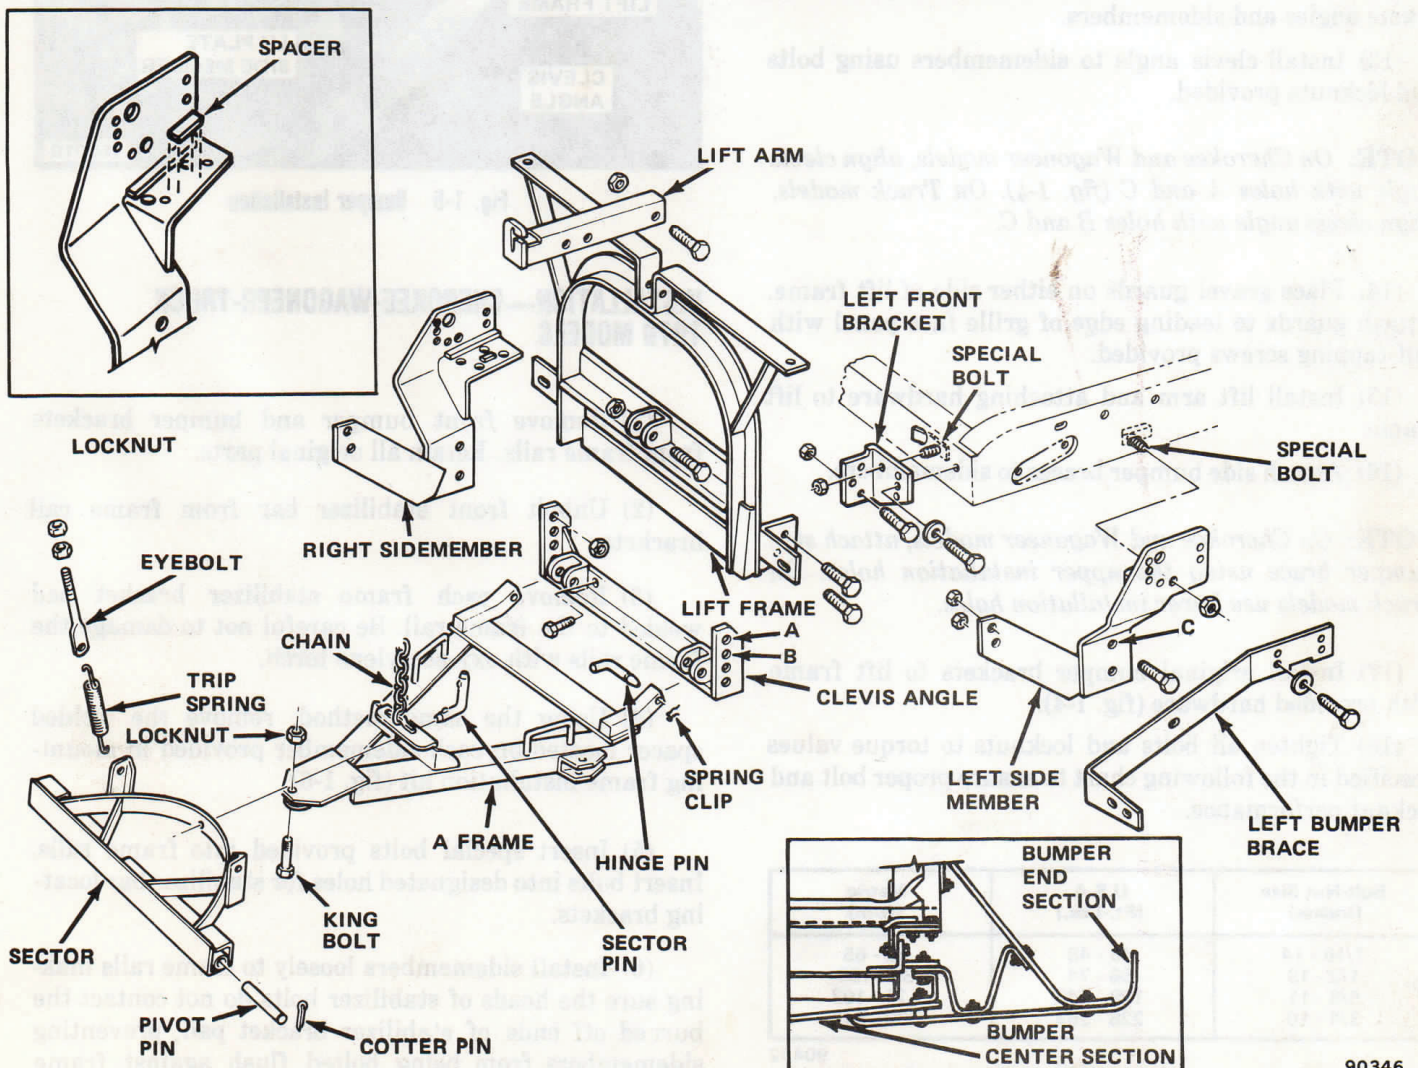

Fig. 1-4 Mounting Frame Installation—Cherokee-Wagoneer-Truck 1976-78 Models
- (1) Remove complete front bumper assembly. Retain all original parts.
- (2) Grind face of front frame crossmember around bolt holes to remove weld splatter and burrs to ensure a flat surface.
- (3) Remove front stabilizer bar from frame rail brackets.
- (4) Remove each frame stabilizer bracket pad welded to the frame rail. Be careful not to damage the frame rails with oxy-acetylene torch.
- (5) Using the same method remove the welded spacer located on each sidemember provided in mounting frame installation kit (fig. 1-4).
NOTE: On Cherokee and Wagoneer models, align clevis angle with holes A and C (fig. 1-4). On Truck models, align clevis angle with holes B and C.
(17) Install original bumper brackets to lift frame with provided hardware (fig. 1-4).
(18) Tighten all bolts and locknuts to torque values specified in the following chart to ensure proper bolt and locknut performance.